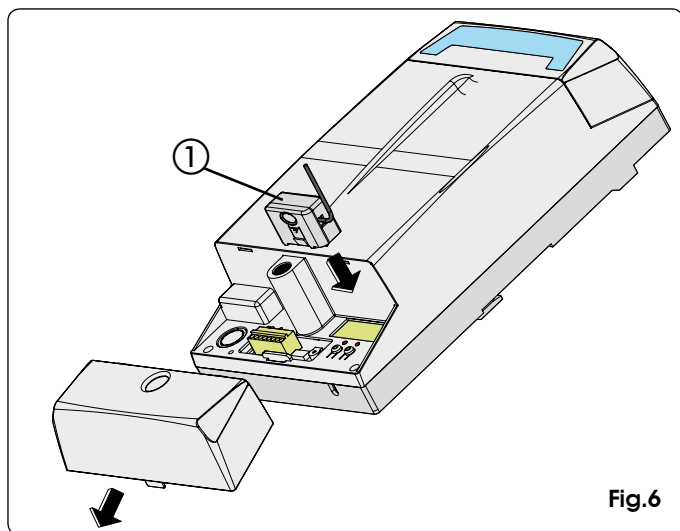

Fig.6
The control unit has an integrated 2-channel decoding system named OMNIDEC. This system makes it possible to memory-store both total opening (OPEN A) and partial opening (OPEN B) of the automated system - this is made possible by an additional receiver module (Fig. 6 ref. ①) and radio controls on the same frequency.